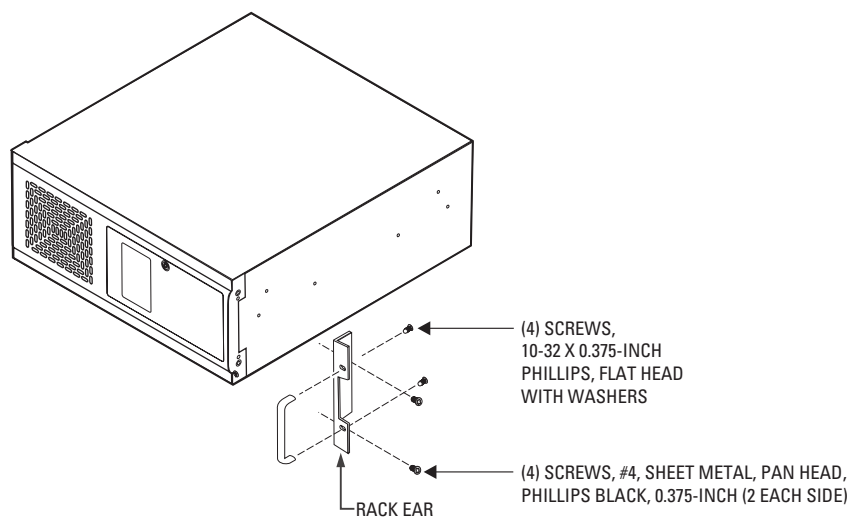

Figure 5. Attaching Rack Ears and Handles
2. Attach the handles to the rack ears using the four provided 10-32 x 0.375-inch Phillips screws. Refer to Figure 5.